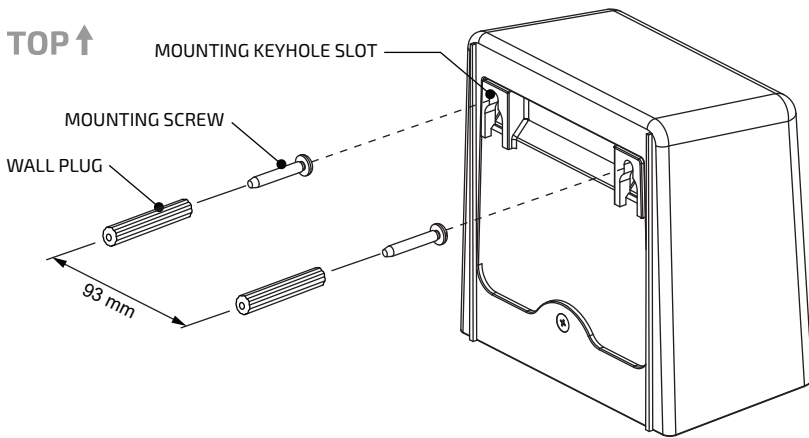

Fig. 3
- 4.1 The Transformer is mounted using the two keyhole slots (93mm centres) on the back of the enclosure (Fig. 3). A mounting template can be found on the last page of this manual. Drill mounting holes for the supplied screws and wall plugs using the template as a guide.